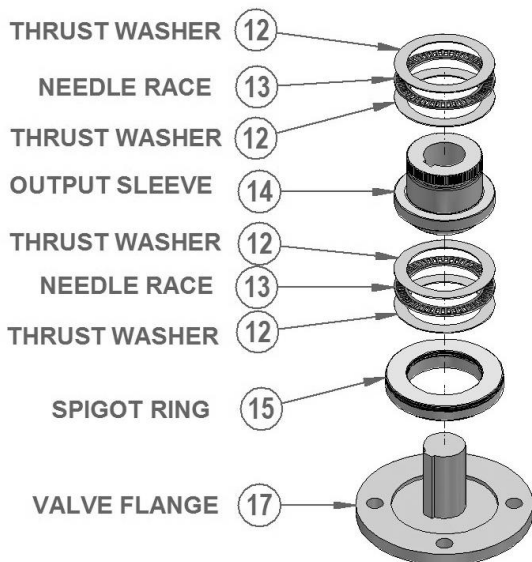
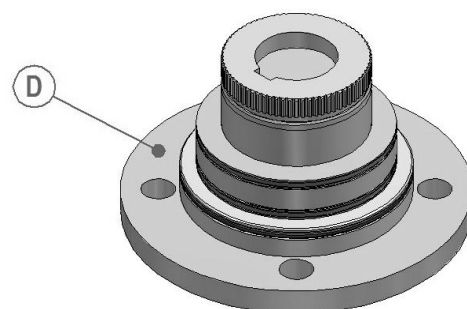

Figure 12 - Valve Stem Assembly
Figure 13 - Valve Stem (Assembled)
In addition to the points in Section 7.2.1, it is recommended that the machined output sleeve assembly is assembled onto the valve stem first and then the gearbox lowered onto the output sleeve assembly. See Figure 12 and Figure 13 for assembly details.
Fit the machined output sleeve (14), thrust bearings (12 & 13) and baseplate spigot ring (15) on the valve shaft as shown in the Figure 12. Bearings should be lubricated with the appropriate grease (see Table 4). Grease the bearings, output sleeve and valve stem. Note that the spigot ring has an internal and external seal that should also be greased.